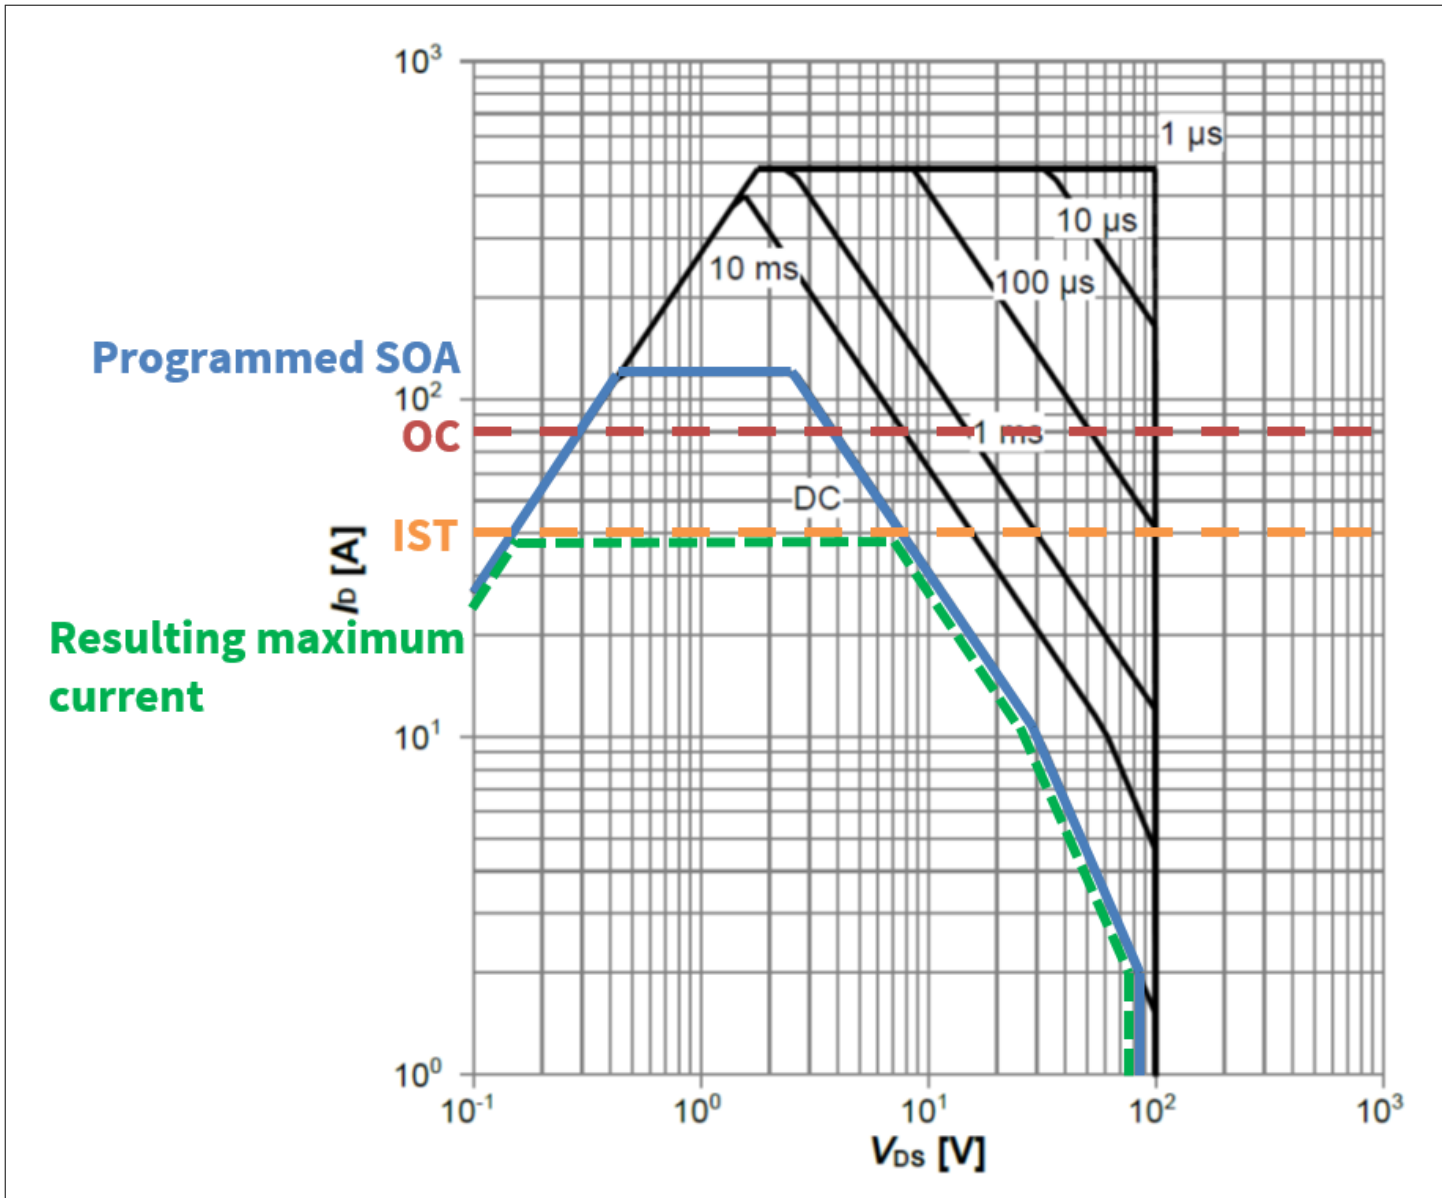

Figure 6 Safe operating area
- XDP700 starts charging the output capacitor by regulating the current through the FET according to the maximum allowed in the SOA. From Figure 6, the DC line allows an $I_{SOA} \cong 4.5$ A at 48 V.